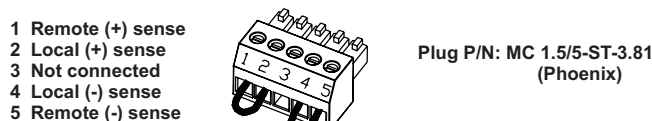

Fig.3-5: Sense connector default connection
- Sense connector : Configured to Local Sense as shown in Fig.3-5: